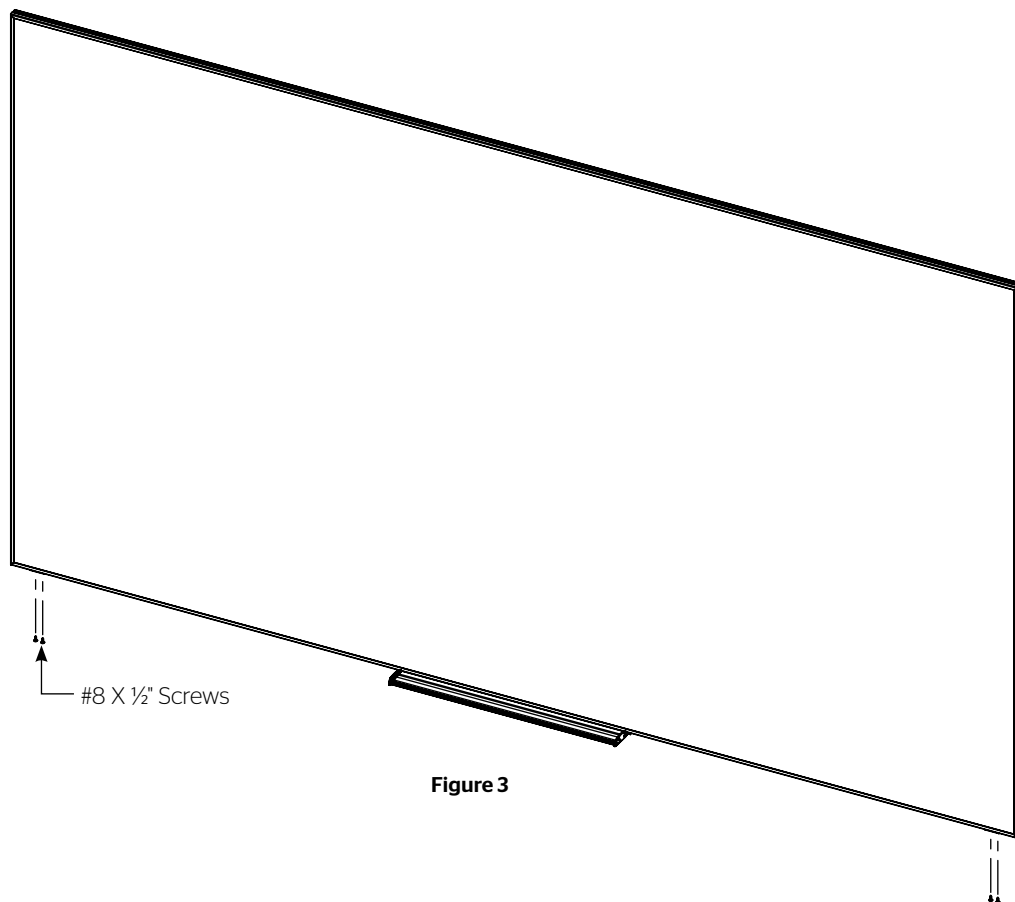

Figure 3
5. Tap the bottom of the two L-brackets with the rubber mallet until they make contact with the frame. Secure the two L-brackets to the frame with the remaining (4) #8 x 1/2" screws (Figure 3).